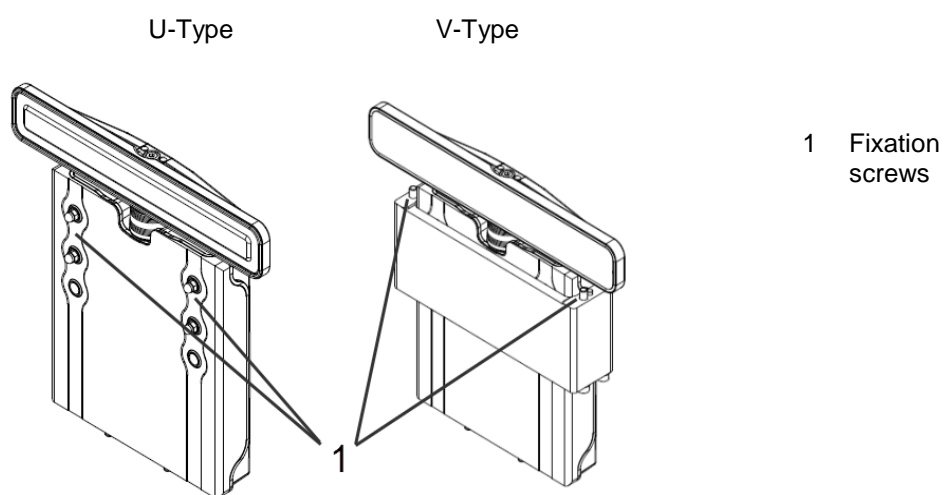

Figure 4-1
1. Mount actuator onto the chamber, use the existing fixation screws (1), see «Figure 4-1».
Location of screws depends on mounting position. See «Figure 4-1» on page 11.